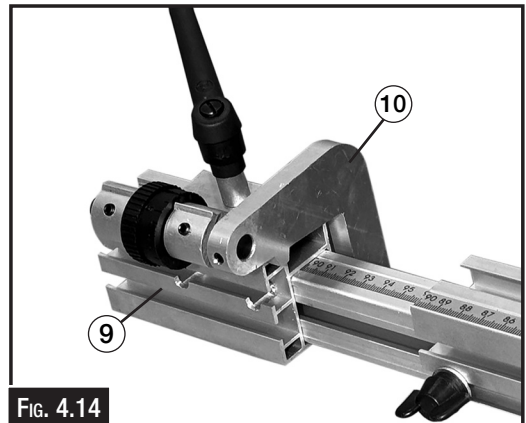

FIG. 4.14
**M. Installing The Stop Rail. (Fig. 4.14)**